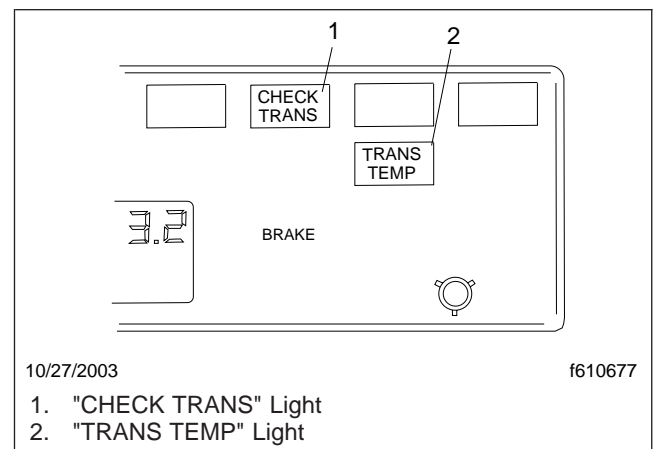

Fig. 8.13, Telltale Lights, UltraShift Transmission
1. With the parking brake set, select neutral (N) by moving the selector switch to the N position.
2. With the transmission in neutral, turn on the ignition switch. The "CHECK TRANS" and "TRANS TEMP" telltale lights come on and go out again (bulb check). See Fig. 8.13.
2. Select neutral (N) by moving the selector switch to the N position. When the "N" on the gear indicator is solid, rather than flashing, the UltraShift TCU is ready to power down. See **Fig. 8.13**.